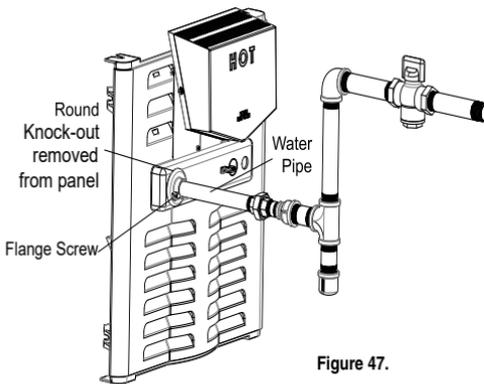

Figure 47.
1. Place the water pipe escutcheon over the water pipe, see Figure 47.